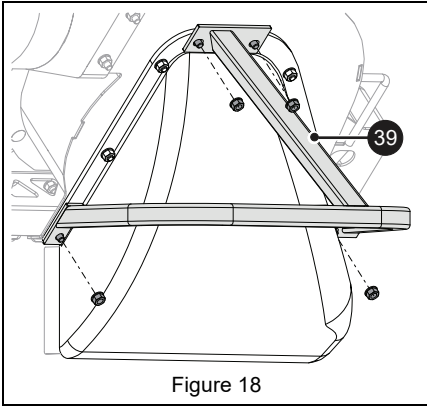

Figure 18
6. Position blower guard on plenum (item 39) and secure with flange nuts removed in step 5. See Figure 18.